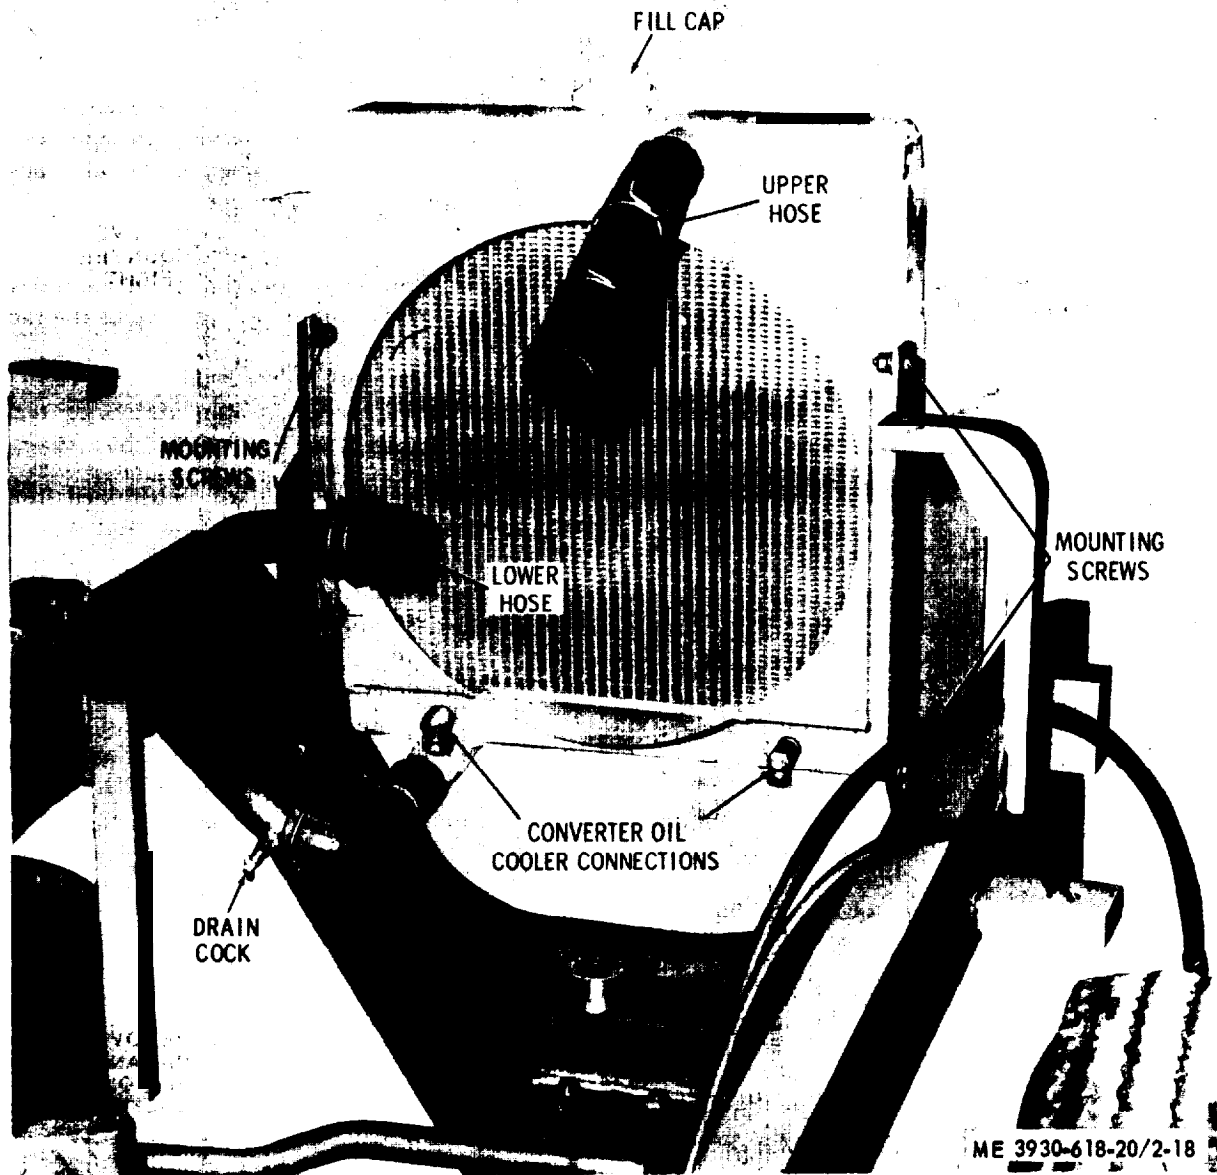

Figure 2-18. Radiator. installed view
b. Removal. Refer to figure 2-18 and remove the radiator as follows :
- (1) Remove the side panels and raise the seat.
- (2) Remove the radiator cap, open the drain cocks and drain the cooling system.
- (3) Disconnect upper and lower hoses from the radiator.
(4) Disconnect the converter oil cooler lines at the radiator.
(5) Remove the radiator grille and panel.
(6) Remove the four screws (two on each side of the radiator) that secure the radiator to the mounting bars.
(7) Remove radiator.